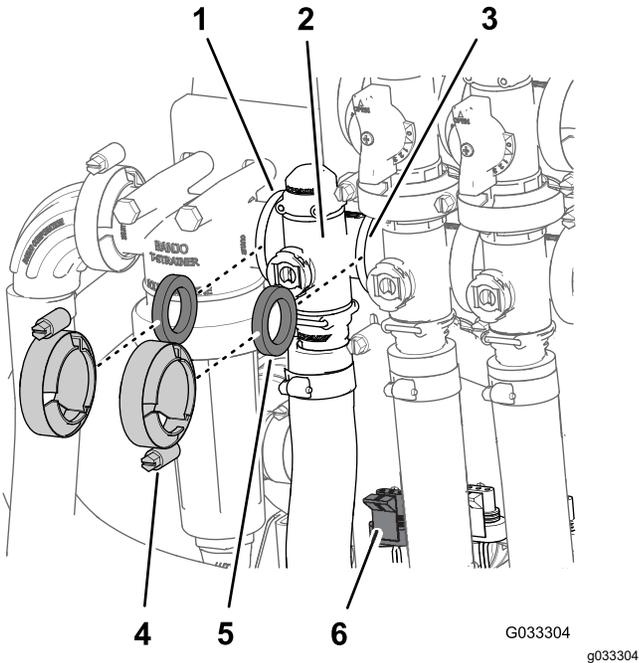

Figure 68
1. Remove the clamps and gaskets that secure the manifold for the rate-control valve (Figure 68).